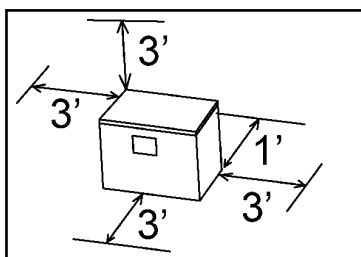

Figure 4. Compressor Unit Clearance
- Clearance around the unit for service is illustrated in Figure 4. However, local codes and applicable regulations take precedence.
- If the compressor unit or other refrigerant-containing system components are located indoors, they shall be in a location which (1) is an *unoccupied space*, or (2) is served by the circulating air system, or (3) provides 280 cu. ft. of open space per nominal ton of rated system capacity. The **2012 International Mechanical Code** defines residential occupancy as including permanent provisions for living, sleeping, eating cooking, and sanitation. Consult local code authorities to define *unoccupied space* for the specific installation.